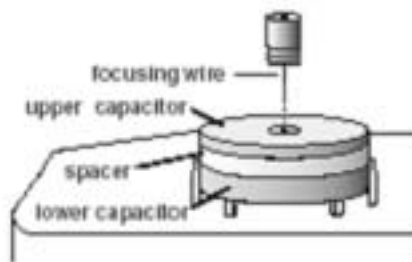

Figure 7. Insertion of the focusing wire into the top capacitor plate
- Unscrew the focusing wire from the platform and carefully insert it into the hole in the top capacitor plate (see figure 7). Then plug the 12-volt DC transformer into the power jack in the halogen lamp housing and plug the apparatus into a wall socket.